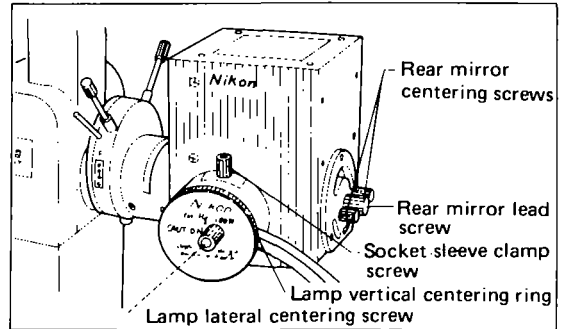
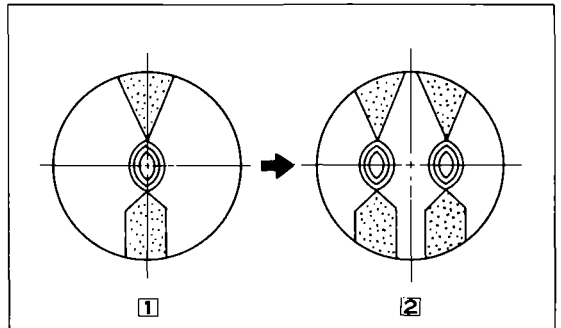

Fig. 17
Fig. 18
Manipulating the lateral centering screw and vertical centering ring (Refer to Fig. 17), bring the arc image to the center of the cross line in the centering tool. (Fig. 18- [1])
- 6) By means of the rear mirror centering screws, bring the arc image to a symmetrical position to the reflected (mirror) image. (Fig. 18- [2])